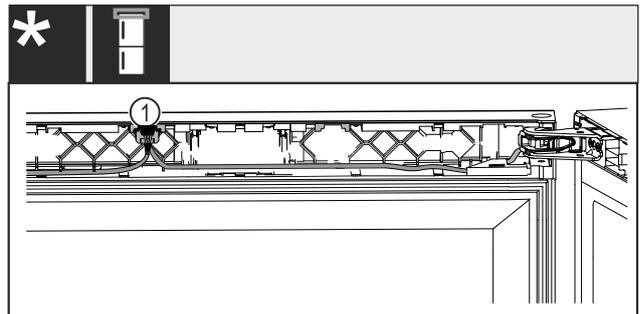

Fig. 64 Wine-freezer combinations*
- ▶ Snap the plug Fig. 64 [1] into the guide.*